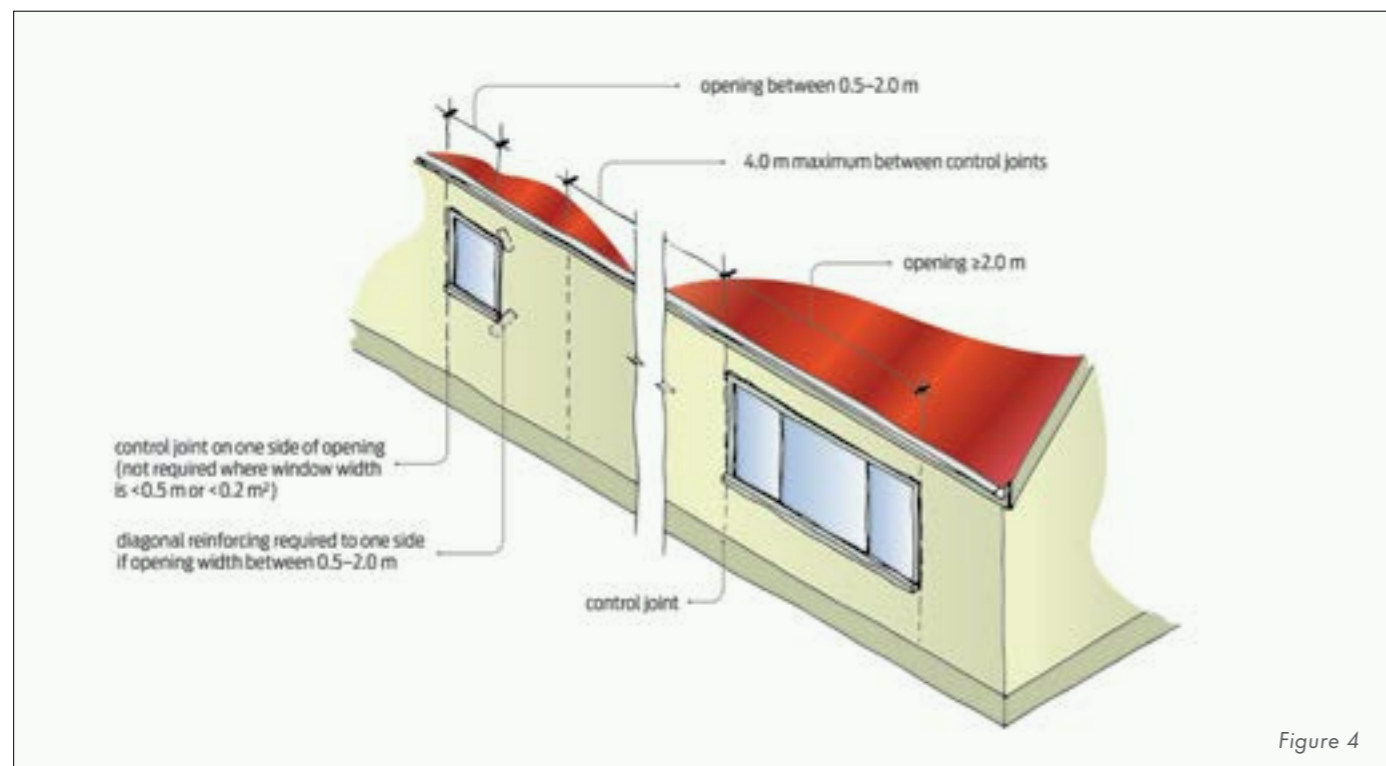

Figure 4
- on both sides of openings that are 2m wide or more (Figure 4)